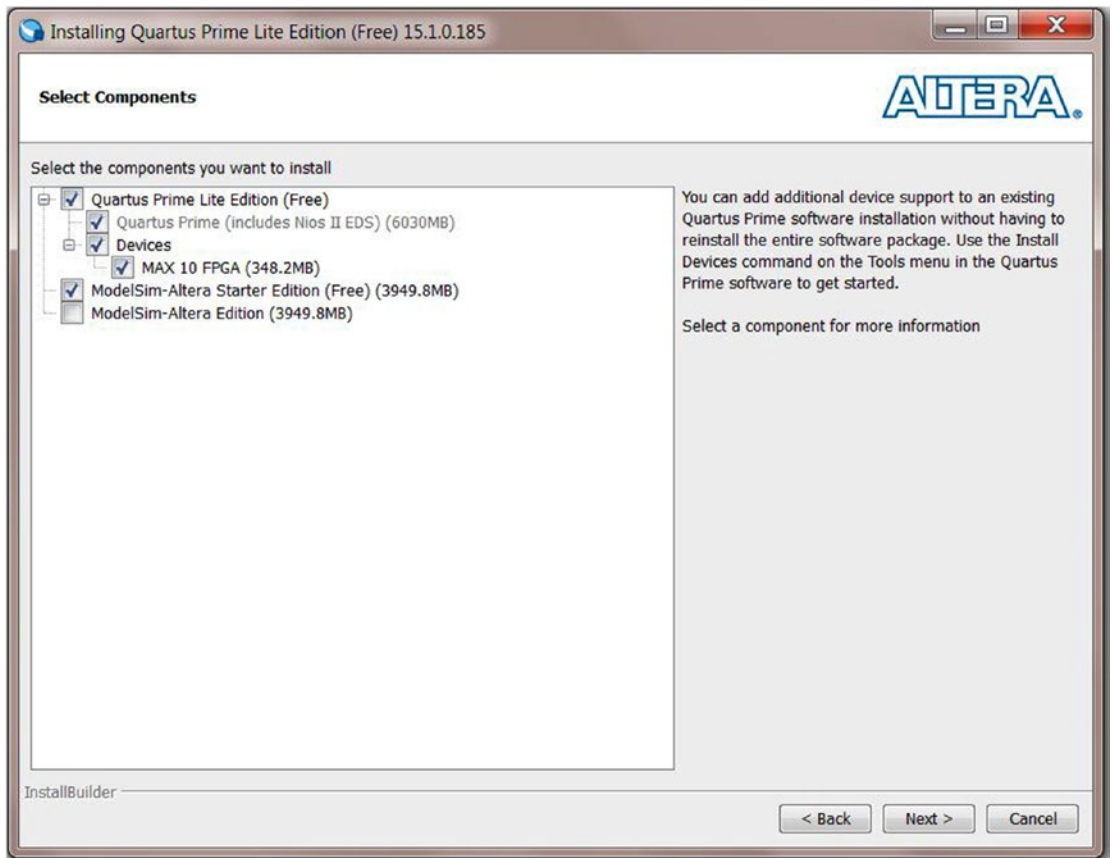

Figure 3-13. Select components.
4. Check Quartus Prime Lite Edition (Free), MAX 10 FPGA, and ModelSim-Altera Starter Edition. It should look like Figure 3-13. Click **Next** to move forward.